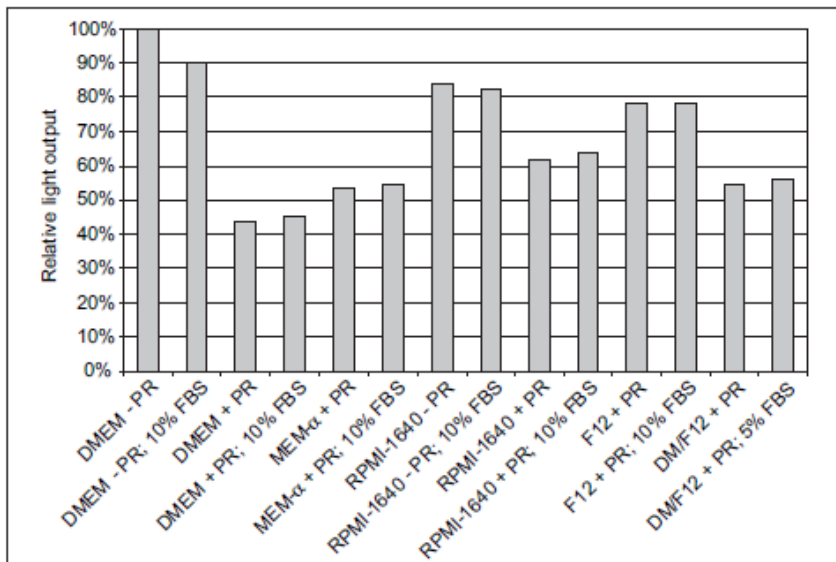
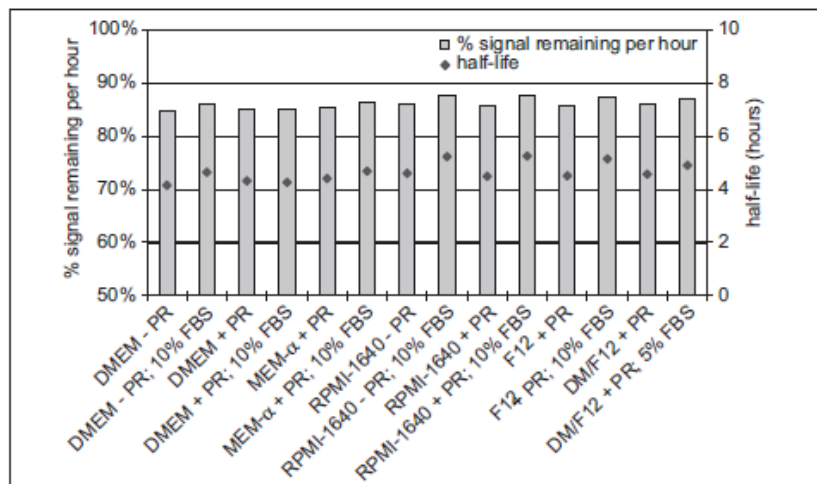

Figure 4: Relative light output in different media
Figure 5: Signal stability in different media expressed as a percentage of signal remaining per hour and half-life (hours)
was measured using a TopCount NXT. Figure 4 illustrates the results of the relative luminescence after 15 minutes count delay. Figure 5 shows the results of the stability of the signal as a function of the culture media used.
The results from Figure 4 show that the light output is to some extent affected by FBS but that Phenol Red has a much larger impact on the light output reflecting the concentrations of Phenol Red in the basal media. Consequently the use of Phenol Red in culture media should be avoided to attain the highest signal. The stability of the luminescent signal is only somewhat dependent on the media as shown in Figure 5.
- Phenol Red, as well as other colored compounds, will chemically not interfere with the luciferin/luciferase reaction, but will quench some of the emitted light, resulting in lower assay signals (see Figure 4). For optimal light output, the culture medium can be substituted with Dulbecco's PBS containing calcium and magnesium ions prior to the addition of steadylite plus.